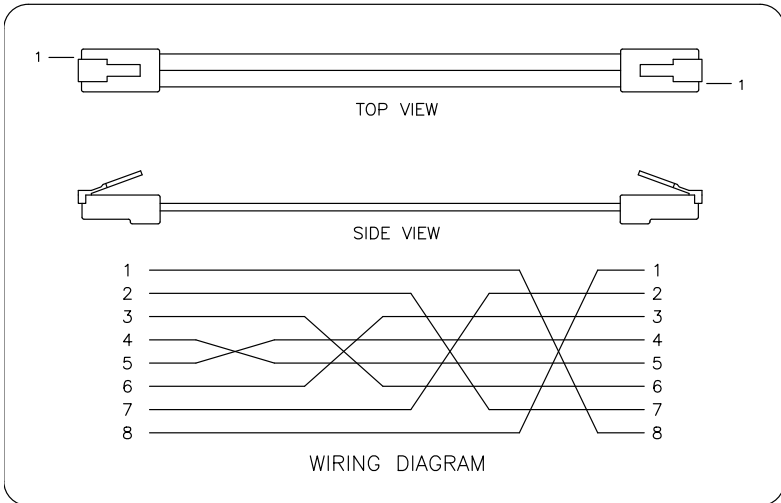

Figure 1. IQ Power Crossover Modular Cable (black)
- b. **Connect Control Station** (if used). The Control Station supplies 24 VDC power for the IQ Power static eliminator power supplies. Cables must be IQ Power 8-conductor modular cables with RJ-45 connectors wired “crossover” (reference color: black, Figure 1). The modular cable plugs into one of the connectors labeled “POWER & COMM” on the Control Station and into either “PS COMM 1” connector on the BPS-C power supply. The modular cable should not be run parallel with static bar high voltage cable. Route modular cable clear of moving machine parts and protect it from abrasion. Secure using nylon wire ties (not supplied). Do not over-tighten wire tie. If there is an excess of modular cable, do not coil it in vicinity of static bar high voltage cable. If possible, cut modular cable to length and re-terminate using an RJ-45 connector installed with the same “polarization” as connector removed (note rib / wire color code to modular connector).